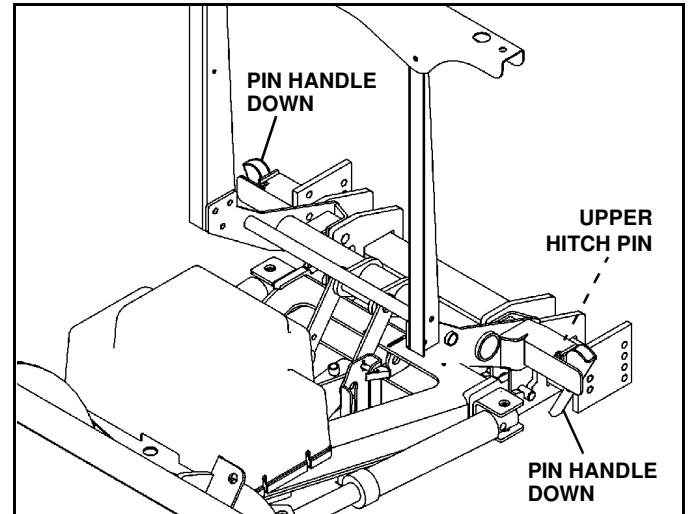

Figure 1-20
4. Put plow into float position by turning down pressure off. Rotate pin handles down to lock pins in place. (See Figure 1-20)
NOTE: Upper hitch pins are fully engaged when pin handle is tight against pin bracket and you cannot see the upper hitch pin between the pin bracket and pin handle. (See Figure 1-20)